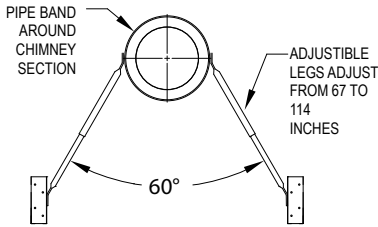

Figure 16
the chimney by setting the female end of the Cap onto the male end of the last chimney section. Secure the Cap by using (6) sheet metal screws provided. Do not push down from the top portion of the cap as this may damage the cap. Push from the lower section of the Cap if needed. The Chimney Cap can be removed for chimney cleaning as described in the Chimney Maintenance section of the instructions. Use an Extended Roof Bracket if the chimney extends more than 4 feet above the roof (**Figures 16 & 17 in the Extended Roof Bracket section**).
**2. Attach the Legs:** The Adjustable Legs of the assembly will adjust from 67" to 114". Secure one end of the Legs to the Pipe Band using the nuts and bolts included (1 per Leg). Position the Adjustable Legs so they form approximately a 60° angle with the chimney, and with each other (**Figures 16 and 17**). Be sure that there is at least 3" of overlap between the top and bottom halves of the Adjustable Leg to ensure a secure fit. In order to secure Legs in proper position, there is a hole provided in the outer leg where the outer and inner halves overlap. Use a 1/4" drill bit to drill through the inner leg at that location. Use the nut & bolt provided to pin the Adjustable Legs in position.